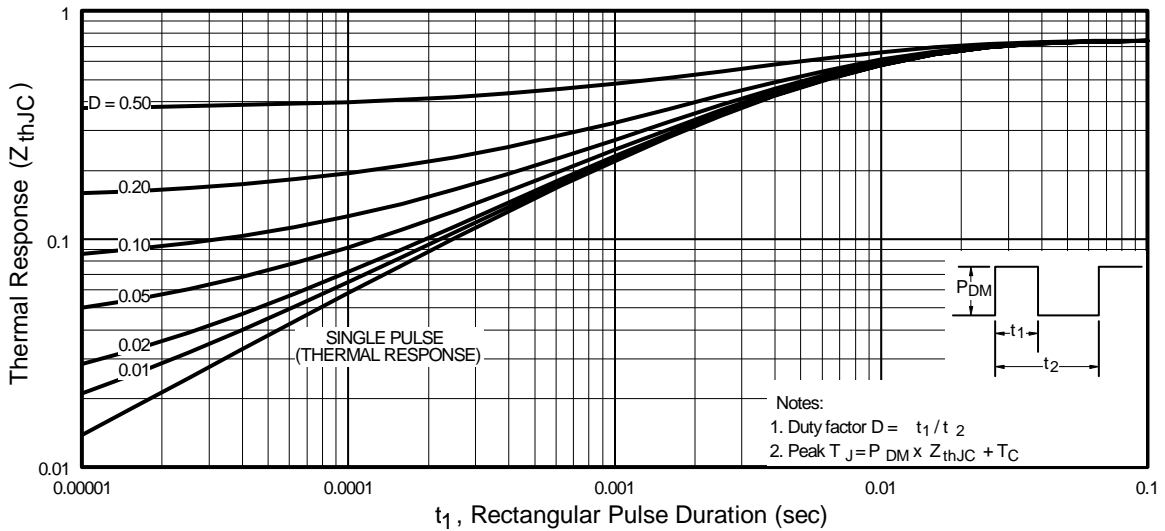

Fig 11. Maximum Effective Transient Thermal Impedance, Junction-to-Case
- ① Repetitive rating; pulse width limited by max. junction temperature. (See fig. 11)
- ② Starting T_J = 25°C, L = 160μH